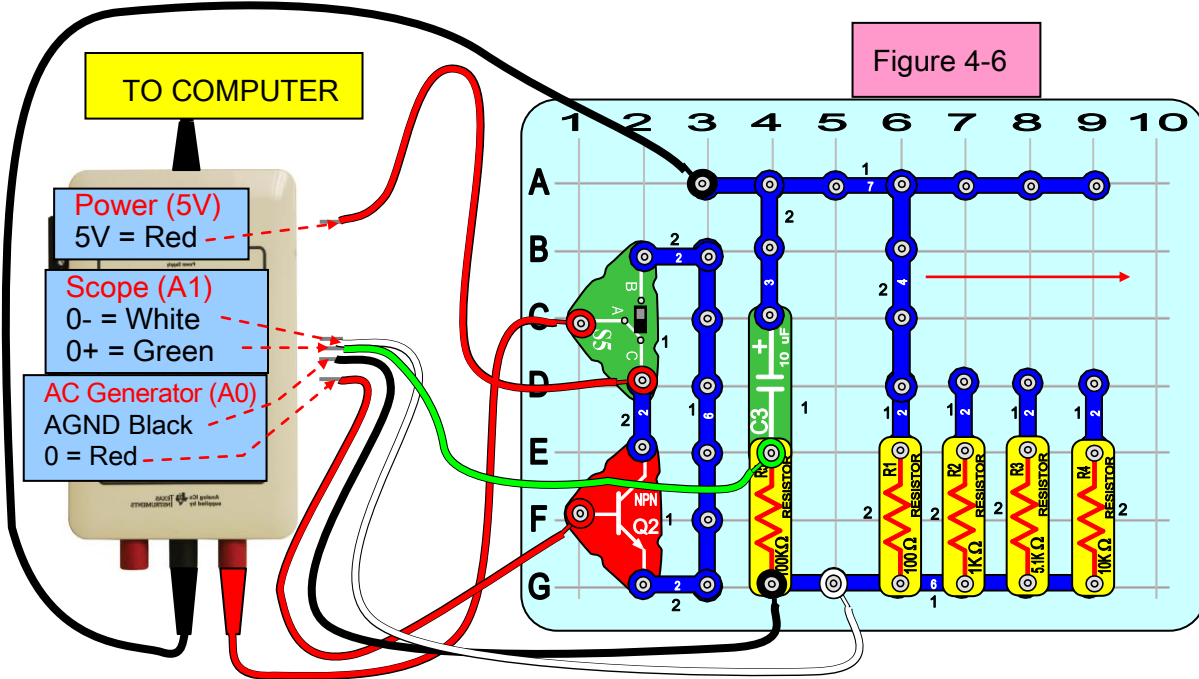

Figure 4-6
Notice that the AC current is now over 13 mA and the sine wave is not clipped. Fill in table that follows by moving the 4 snap in Figure 4-6 (red arrow) and calculate values of resistance for AC current and voltage with the improved AC source.
1. Why was the capacitor C3 used in Figure 4-6?